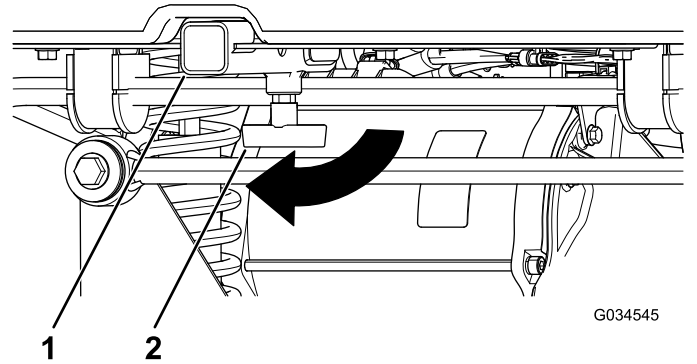

Figure 15
1. Loosen the 'T' handle by rotating it clockwise (Figure 15).
2. Insert your accessory into the receiver until the accessory reaches the end of the receiver (Figure 15).